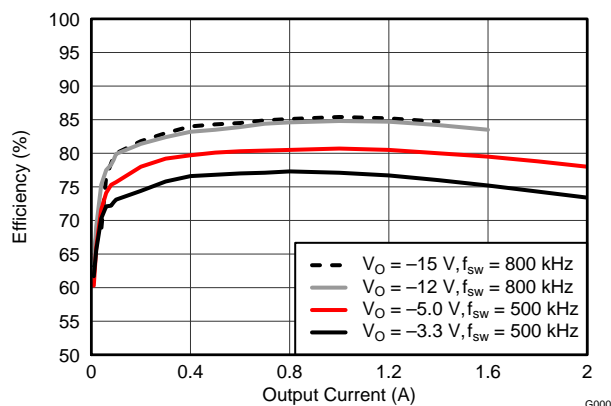
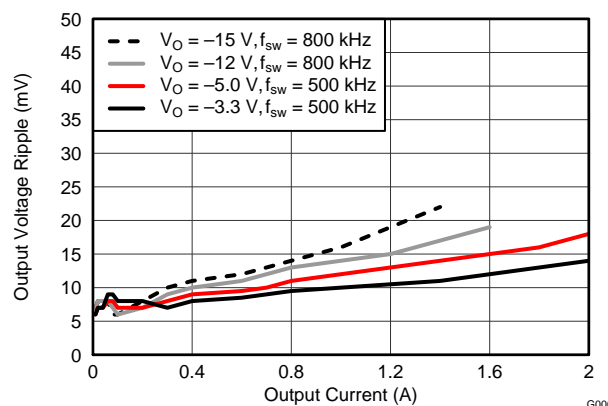
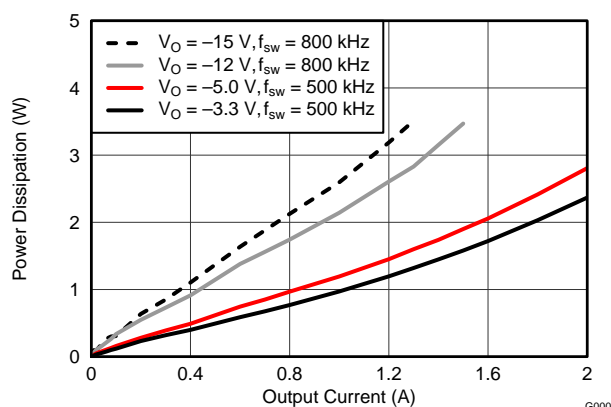

Figure 15. Efficiency vs. Output Current
Figure 16. Voltage Ripple vs. Output Current
Figure 17. Power Dissipation vs. Output Current
- (1) The electrical characteristic data has been developed from actual products tested at 25°C. This data is considered typical for the converter. Applies to Figure 15, Figure 16, and Figure 17.
- (2) At light load the output voltage ripple may increase due to pulse skipping. See Light-Load Behavior for more information. Applies to Figure 16.